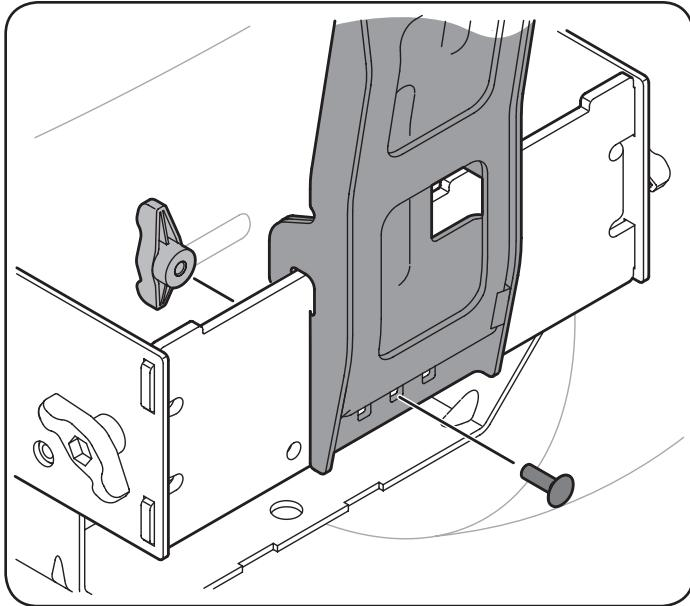

Figure 11
- Secure the bag support assembly to the mounting assembly using a carriage bolt (710-0276) and wing knob (720-04122) from hardware pack 689-00312. See Figure 11.